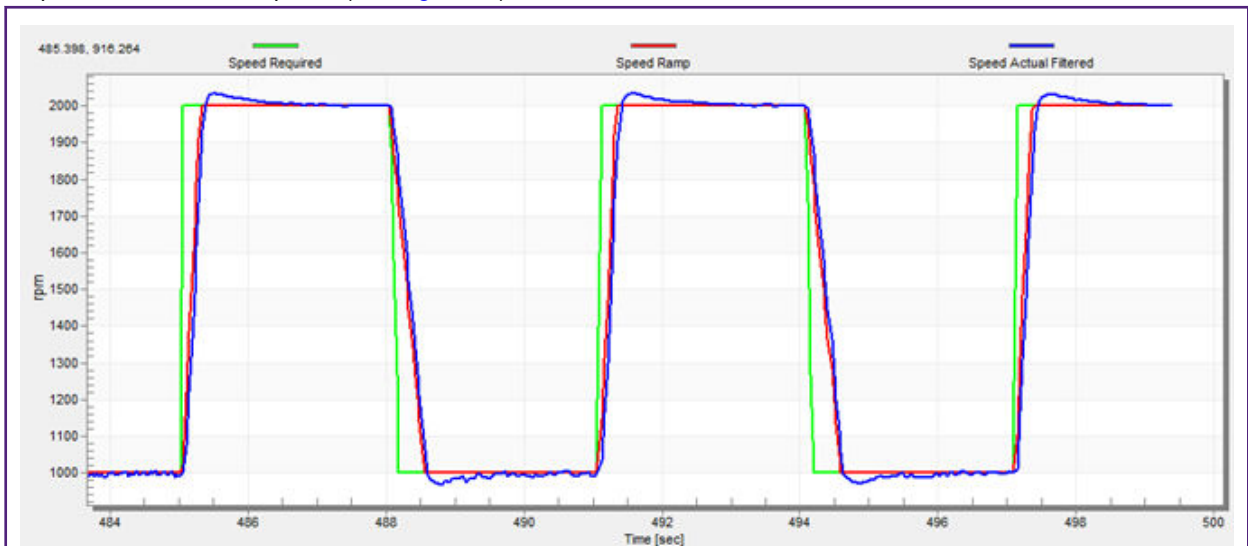

Figure 25. Speed controller response—speed loop response with small overshoot
- The speed loop response has a small overshoot and the *Speed Actual Filtered* settling time is sufficient. Such response is considered optimal (see Figure 25).